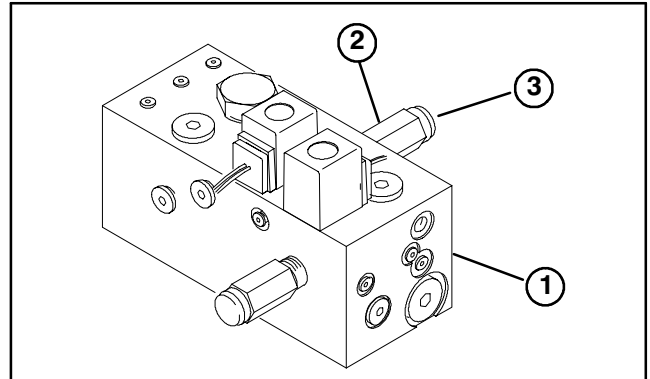

Figure 9
ADJUST REEL CIRCUIT RELIEF VALVE (Fig. 9)
1. On rear side of manifold, remove cap from end of relief cartridge (Fig. 9).